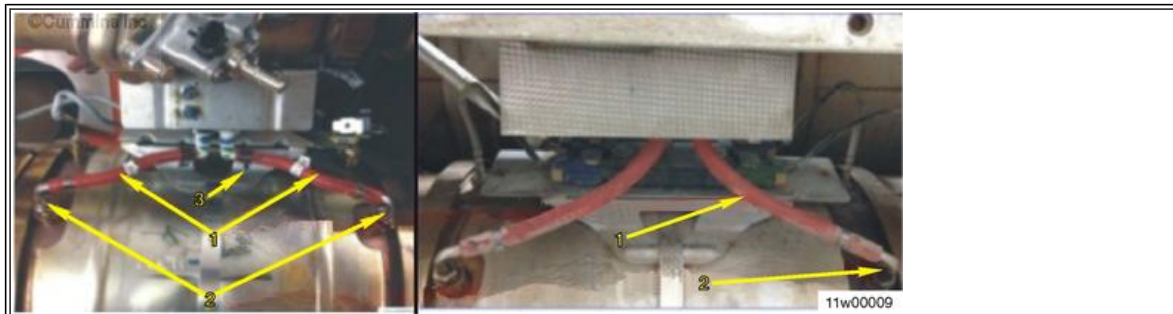

Figure 4: Canister mounted (left) versus remote mounted (right) DPFDP sensor
Align the temperature coupling on the diesel oxidation catalyst (DOC) inlet (stamped T1) and the temperature coupling on the DPF (stamped T2). If they are not aligned, loosen the band clamps and align the temperature sensor probes by rotating the aftertreatment DPF canister. **Figure 4** below shows the difference in mounting between a canister mounted and remote mounted DPFDP sensor. **Refer to appropriate section for repair steps below.**
5. Adjust the DPF Differential pressure sensor port fittings to match the 0-10 degree downward angle (Figure 4). Tighten the upstream DPF differential pressure sensor port fitting after adjustment to 31 N•m [23 ft-lb]. Tighten the downstream DPF differential pressure sensor port fitting after adjustment to 17 N•m [13 ft-lb].